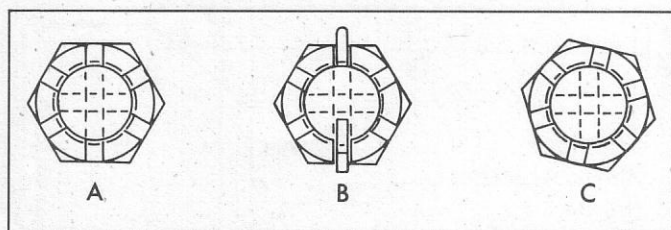

Fig. 2—Adjusting Wheel Bearing
4. If slot in nut and cotter pin hole line up either horizontally or vertically as shown in "A," Figure 2, insert cotter pin as shown in "B."